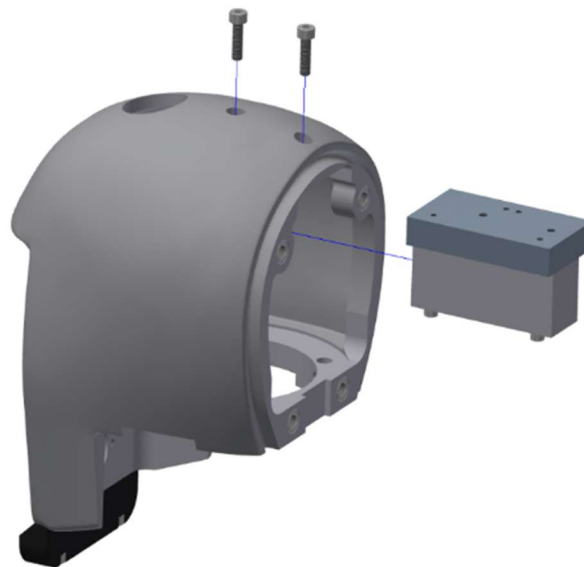

Figure 3-29. DAS mount and skull
- 3.3.9 Install the DAS mount (474-1051) to the skull (474-1010) using two M4 X 0.7 X 25 SHCS through the exterior top of the skull (Figure 3-29).